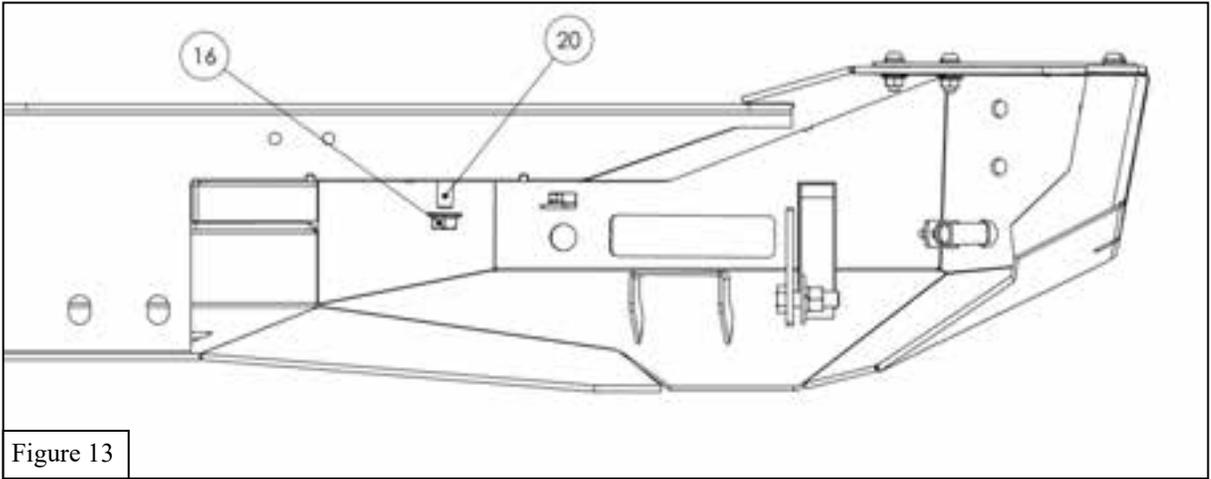

Figure 13
7. Install the M12 Striker Bolt (item 12) into the bumper, using an M12 Flanged Nut torqued to 59-66 ft-lb . See **Figure 13 & 14.**